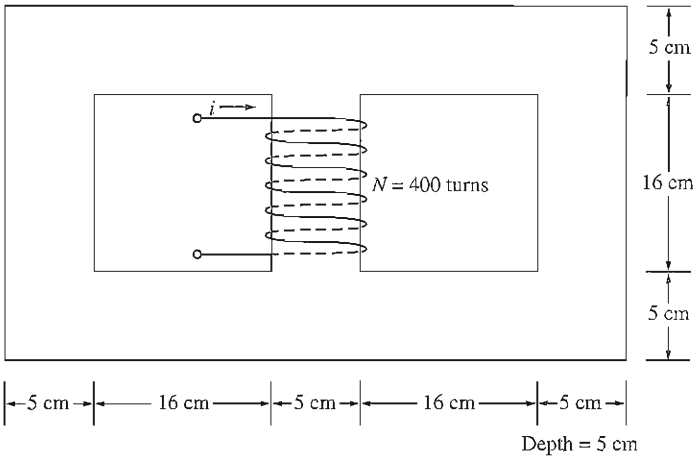

FIGURE P1-10
- 1-13.** A core with three legs is shown in Figure P1-10. Its depth is 5 cm, and there are 400 turns on the center leg. The remaining dimensions are shown in the figure. The core is composed of a steel having the magnetization curve shown in Figure 1-10c. Answer the following questions about this core: